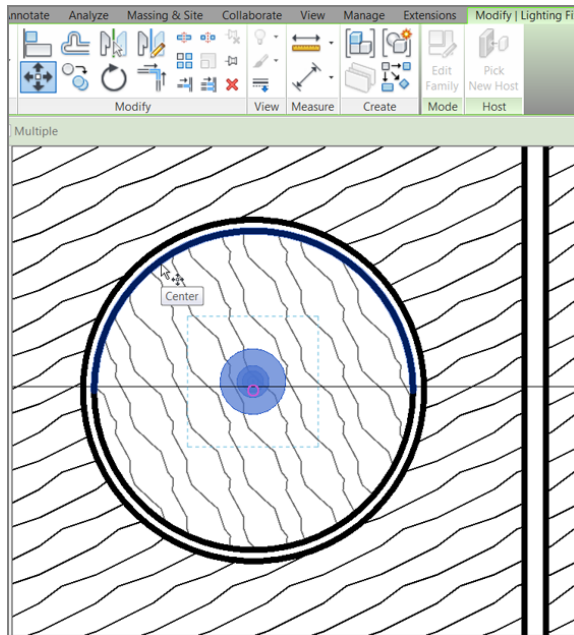

FIGURE 9.32: Moving the fixture to the correct location
12. Hover your cursor over one of the inside radial walls. A center snap appears. Pick the radial wall. Your fixture should snap to the center of the soffit (see Figure 9.32).